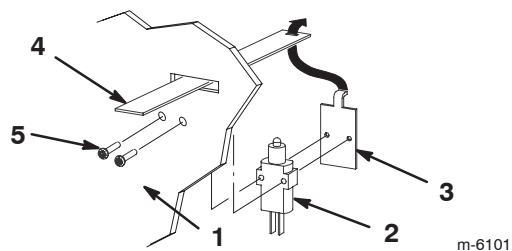

Figure 7
1. Reach beneath the rear of the tractor and hold the full bag switch and switch plate while removing the 2 screws on the rear panel (Fig. 7).
3. Hook the switch plate onto the lever and secure the switch and switch plate to the rear panel with the 2 screws (Fig. 7).